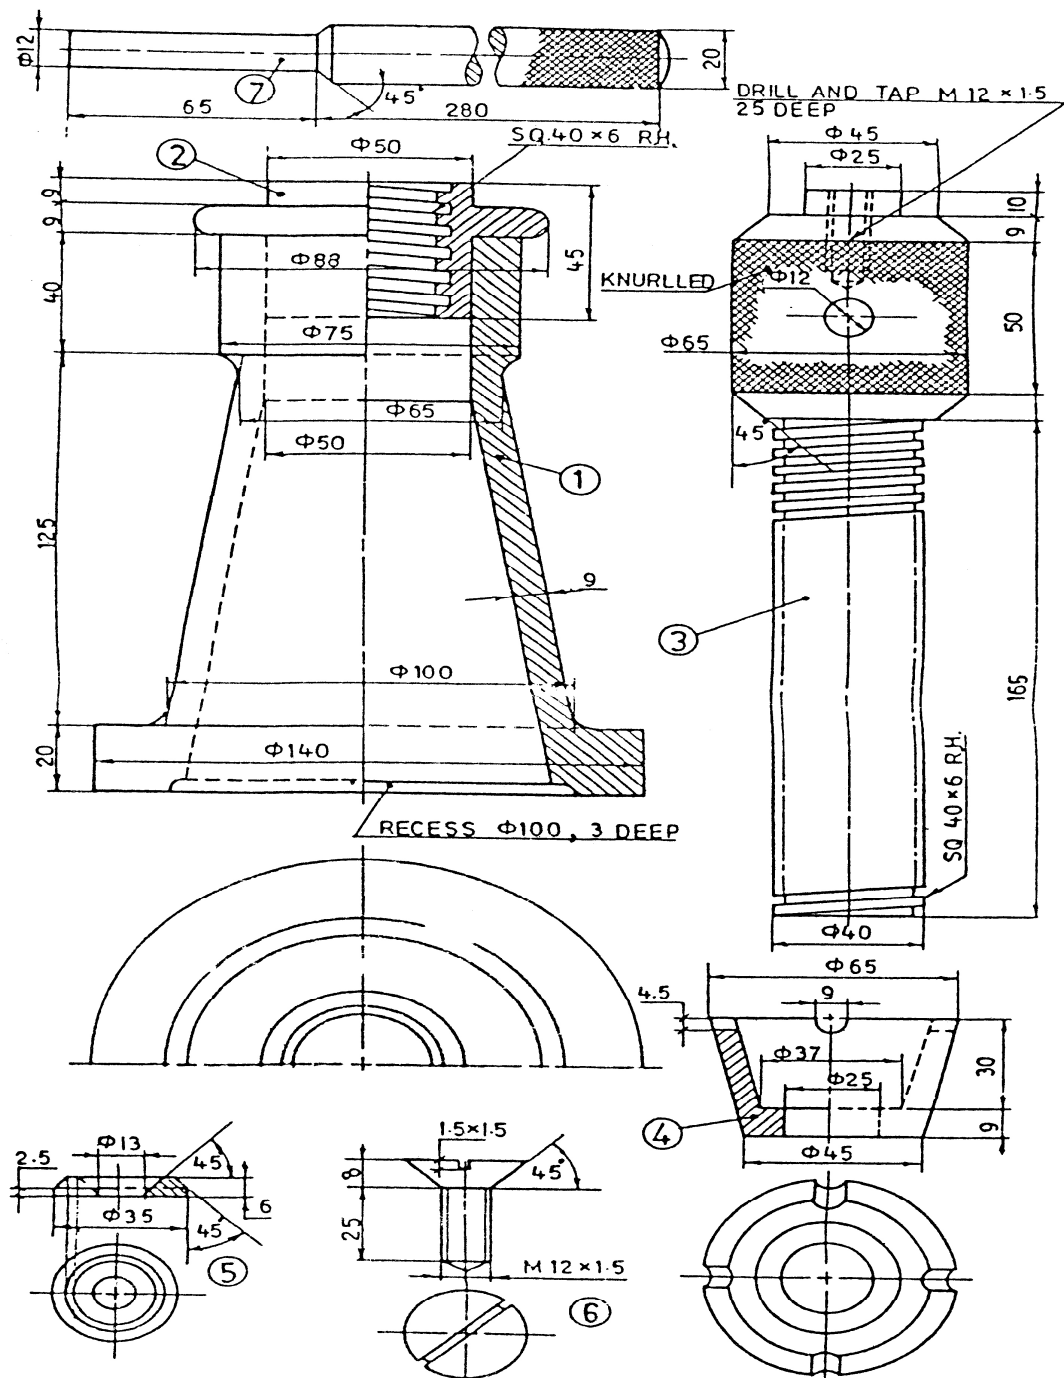

Fig. 1
- 7 Draw the full sectional Front view and Top view of the screw-jack assembly as shown in fig. 1.